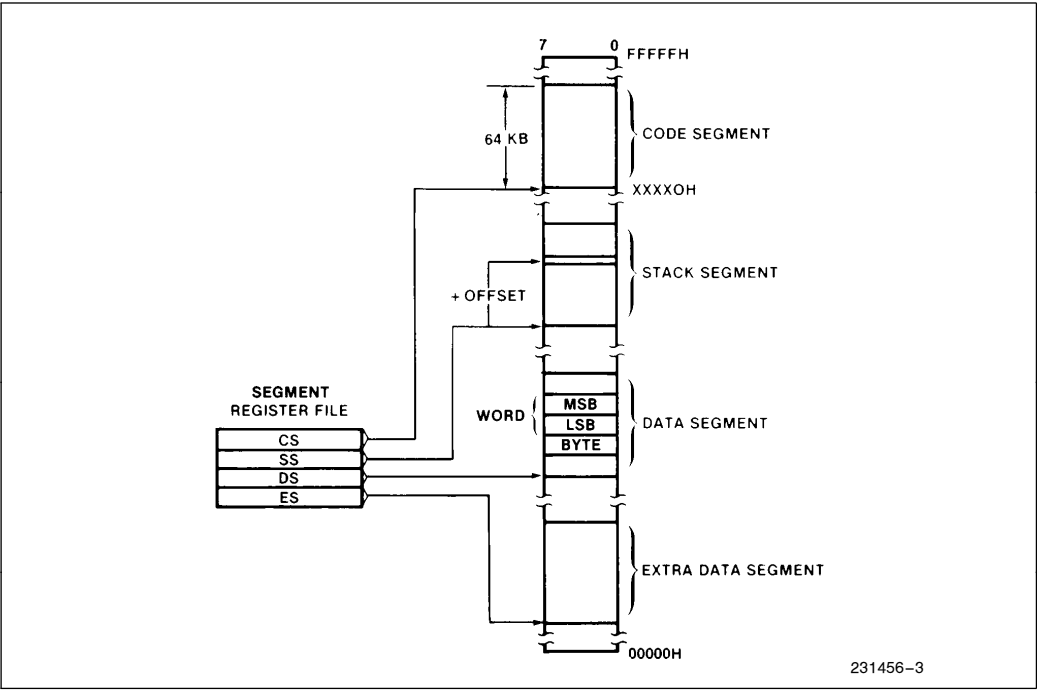

Figure 3. Memory Organization
The processor provides a 20-bit address to memory which locates the byte being referenced. The memory is organized as a linear array of up to 1 million bytes, addressed as 00000(H) to FFFF(H). The memory is logically divided into code, data, extra data, and stack segments of up to 64K bytes each, with each segment falling on 16-byte boundaries (See Figure 3).